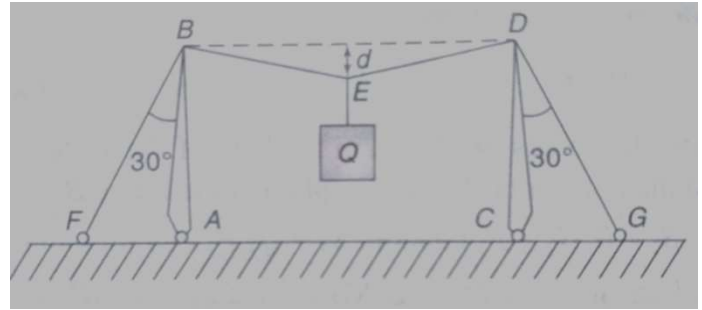

Figure 1.17
24. Two vertical masts AB and CD are guyed by the wires BF and DG, in the same vertical plane and connected by a cable BD of length l , from the middle point E of which is suspended a load Q (Figure 1.17). Find the tensile force S in each of the two guy wires BF and BG if the load $Q = 445$ N and the length $l = 6.1$ m and sag $d = 0.305$ m.